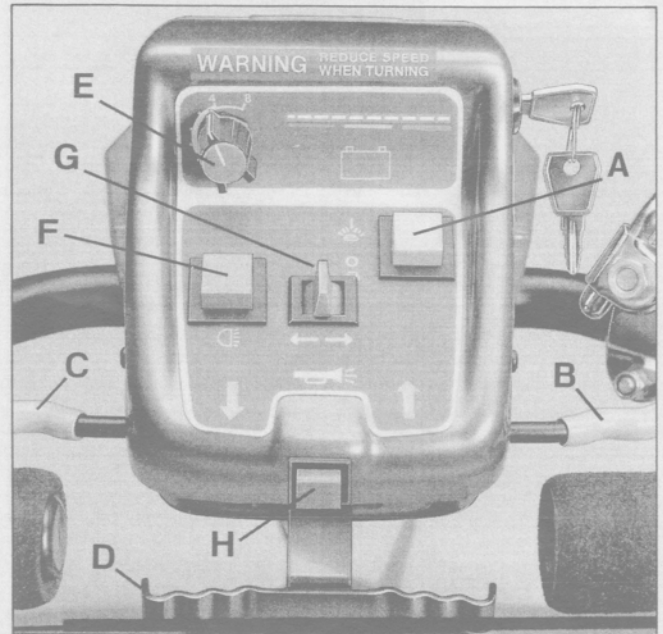

Fig. 10
First insert your key (where applicable) as shown (Fig 10). For security, this key should be removed when your Scoota is left unattended. Now press the ON/OFF switch (A). The battery indicator display will light up and you are ready to move off. The battery indicator display will indicate when